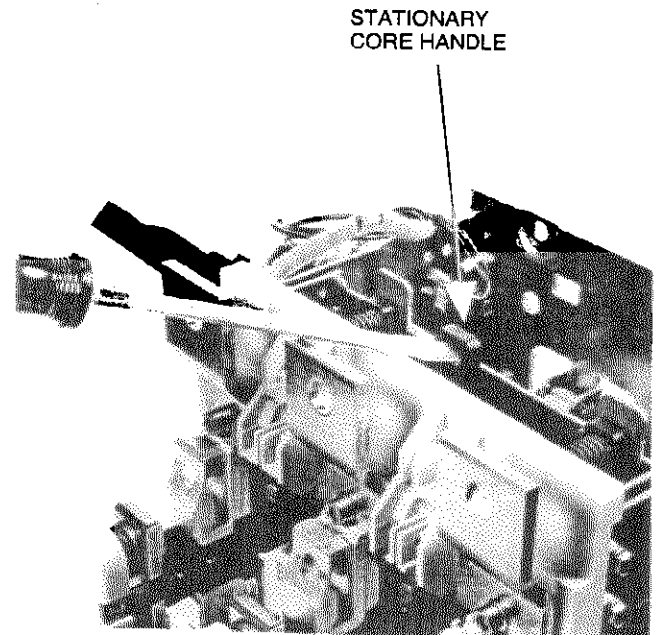
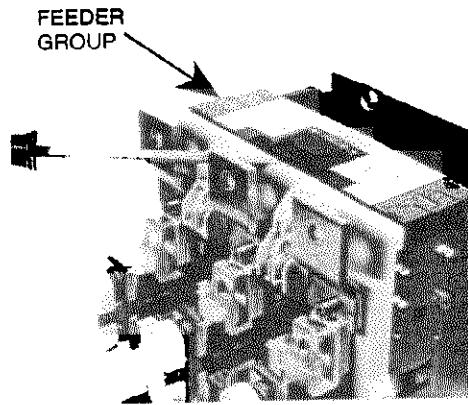

Figure 1 - Coil Removal
Figure 2 - Feeder Group
3. Remove feeder group (see Feeder Group Removal on Page 2, Figure 2). DO NOT DISCONNECT WIRES. Insert the tip of a long shaft screwdriver into the eye of the stationary core handle as shown in Figure 1. Using the screwdriver as a lever, gently pry stationary core upward until detents on the sliding blocks engage stop bars of contactor frame.
2. Insert a screwdriver as shown in Figure 2 to pry the feeder group from the contactor frame.